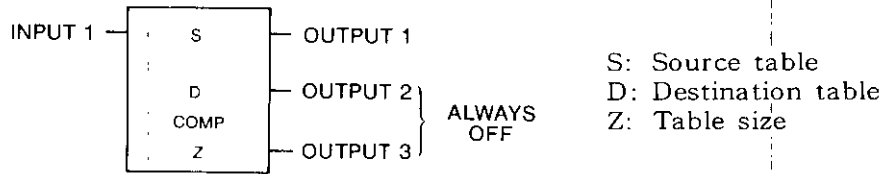

Fig. 5.83 COMP General Form
- Fig. 5.83 shows the form of complement.